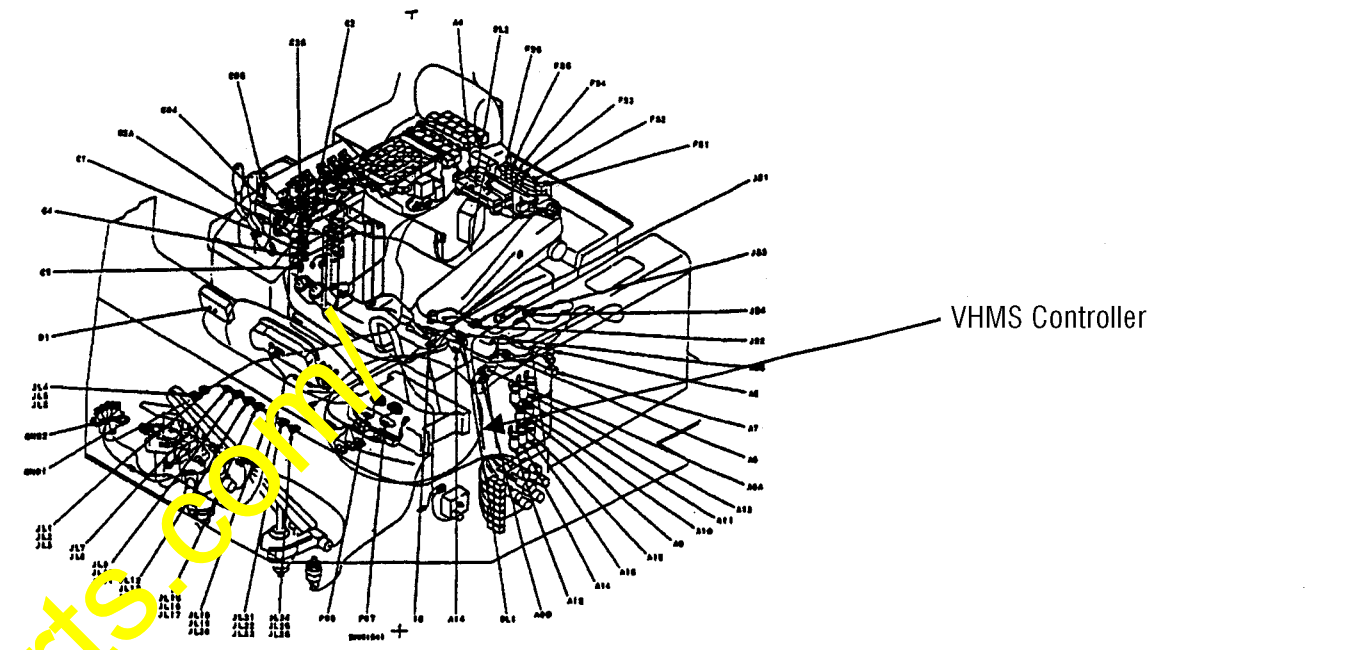

Fig 1
Min. two minutes after the process in Item (2) above, start with dismantling the VHMS controller installed under the operator's seat (See Fig 1) in the following steps.